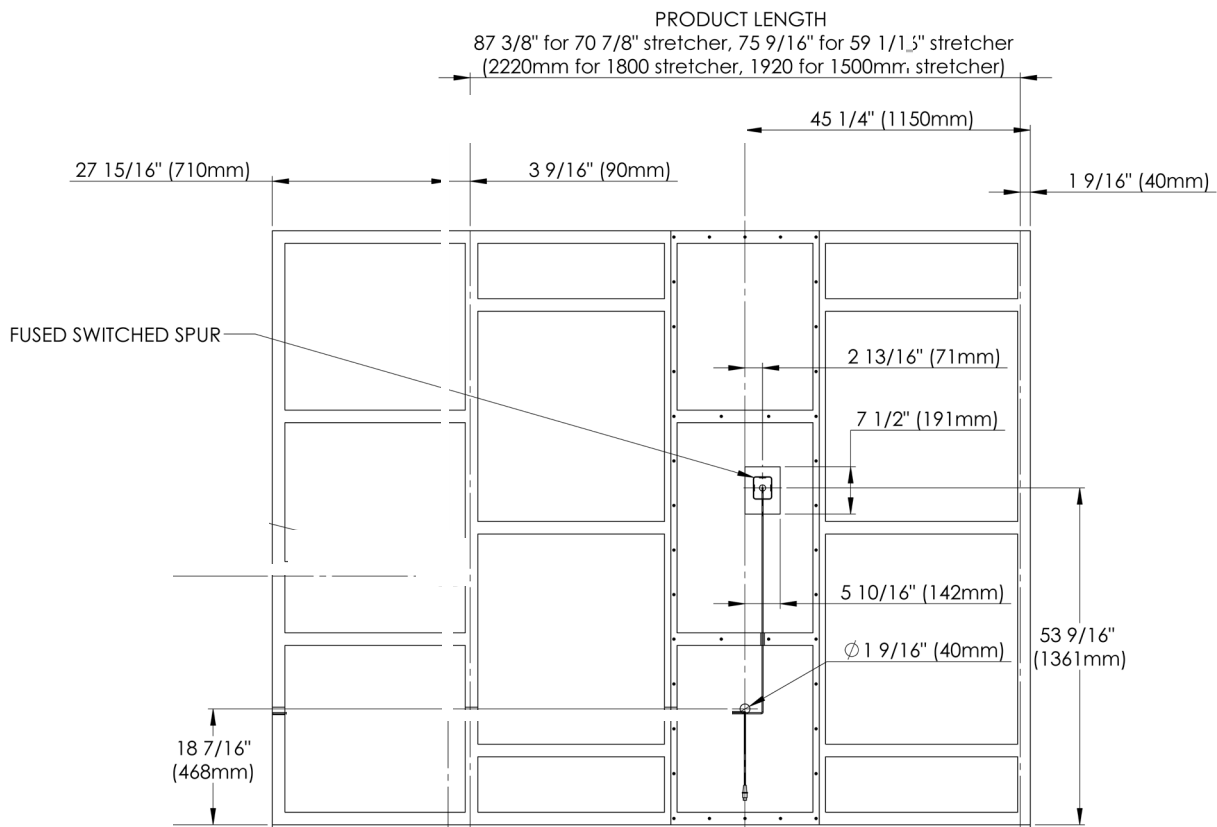

Fig 11.2 Switched waterproof, flex outlet
- A switched, waterproof flex outlet is required for hard wiring the product to. This outlet must be located in the position shown in Fig 11.2. The outlet cannot be any larger than 7 1/2" (191mm) tall or 5 5/8" (142 mm) wide and must be flush or sub-flush to the level of the marine plywood once fitted.
- The switched, waterproof flex outlet has been fitted in the position shown in Fig 11.2, is no larger than the stated dimensions and flush or sub-flush with the wall.